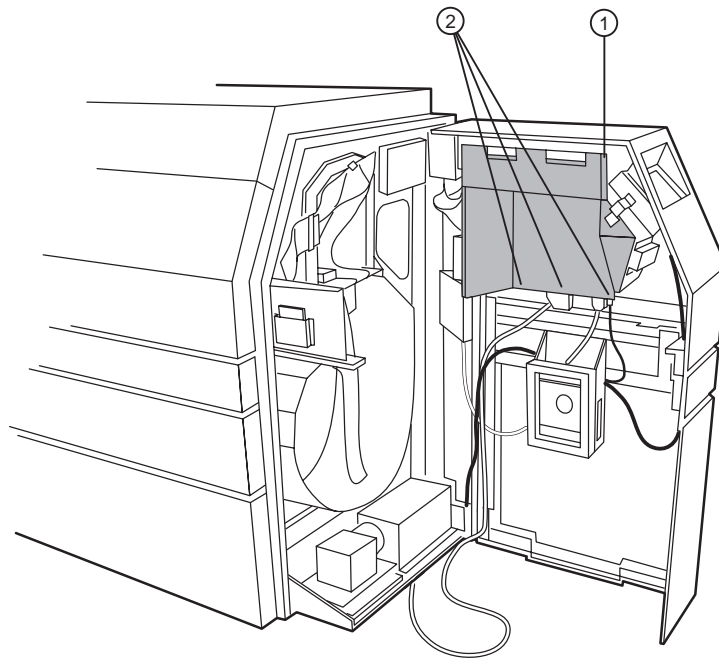

Figure 4-6 Electronic enclosure cover (screw locations).
2. Remove the three (3) 1/4" hex screws at the bottom of the electronics enclosure. Refer to Figure 4-6.
3. While holding the electronics enclosure cover with one hand, loosen one (1) 1/4" hex screw located at the top right side. Refer to Figure 4-6.